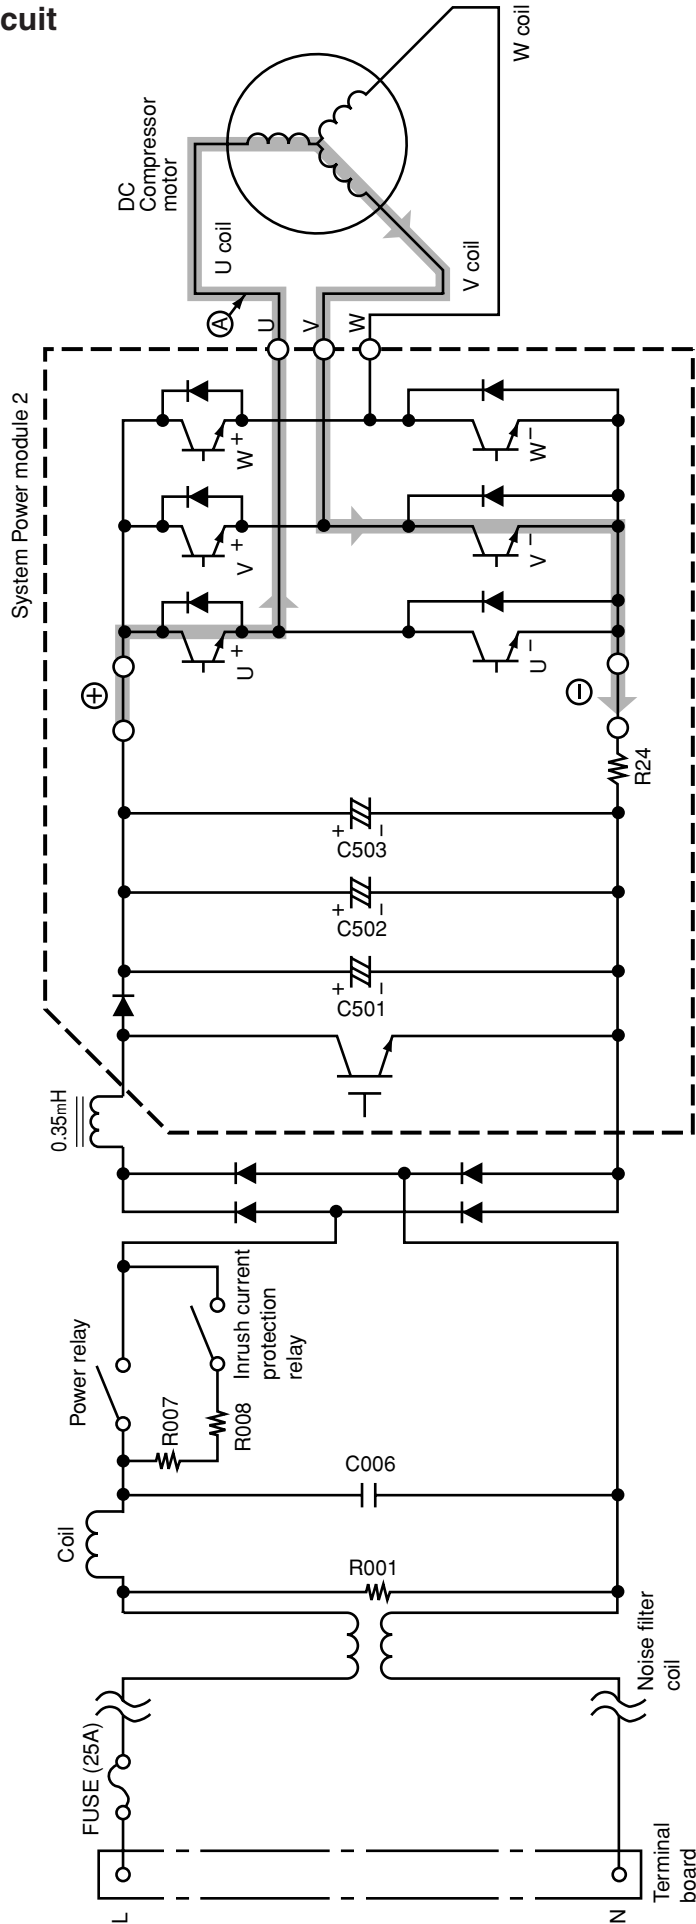
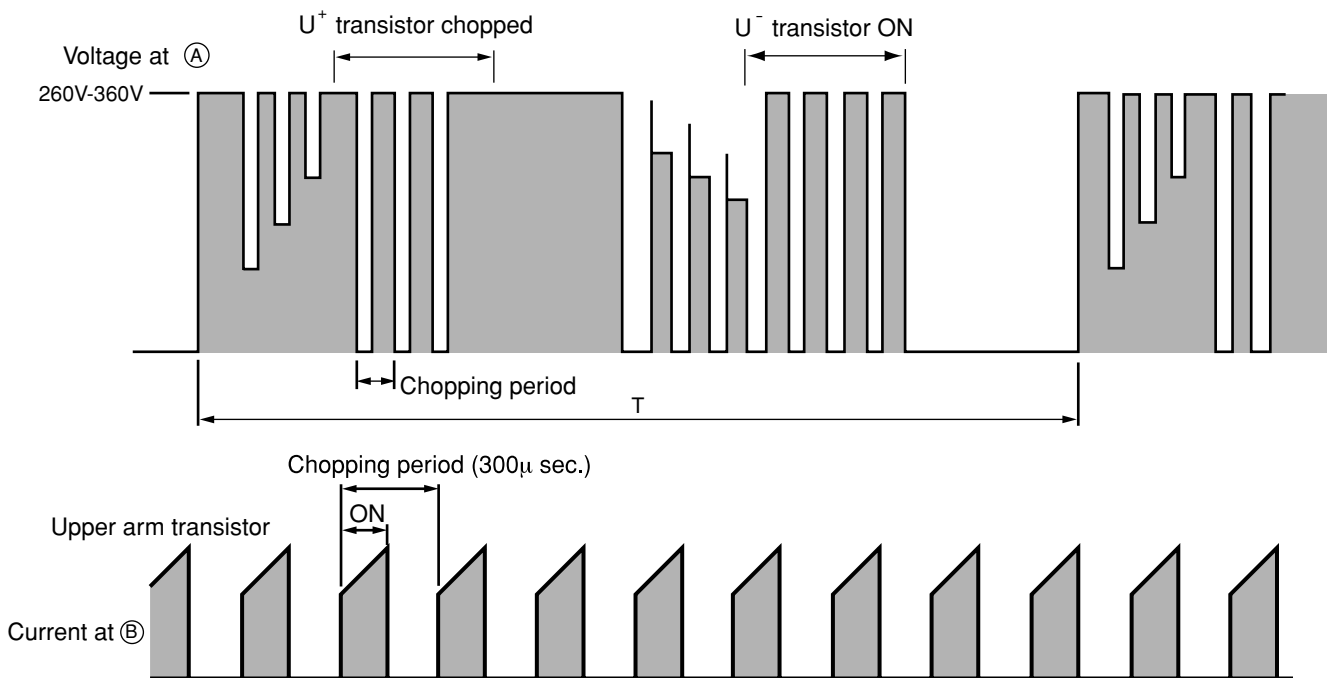

Fig. 3-1 Power module circuit (U⁺ is ON, V⁻ is ON)
Fig. 3-3 Voltage waveform at each point
- Fig. 3-1 shows the system power module and its peripheral circuit. The three transistors on the positive ⊕ side are called the upper arm, and the three transistors on the negative ⊖ side, the lower arm.
- Fig. 3-3 shows voltage waveform at each point shown in Figs. 3-1 and 3-4. First half of upper arm is chopper, second half is ON, and first half of lower arm is chopper, second half is ON.
- When power is supplied U⁺ → U⁻, because of that U⁺ is chopped, current flows as shown below; (B)
- (1) When U⁺ transistor is ON: U⁺ transistor → U coil → V coil → V⁻ transistor → DC current detection resistor → Point (B) (Fig. 3-1)
- Since current flows at point B only when U⁺ transistor is ON, the current waveform at point B becomes intermittent waveform as shown in Fig. 3-3. Since current at point B is approximately proportional to the input current of the air conditioner, input current is controlled by using DC current (I_d) detection resistor.